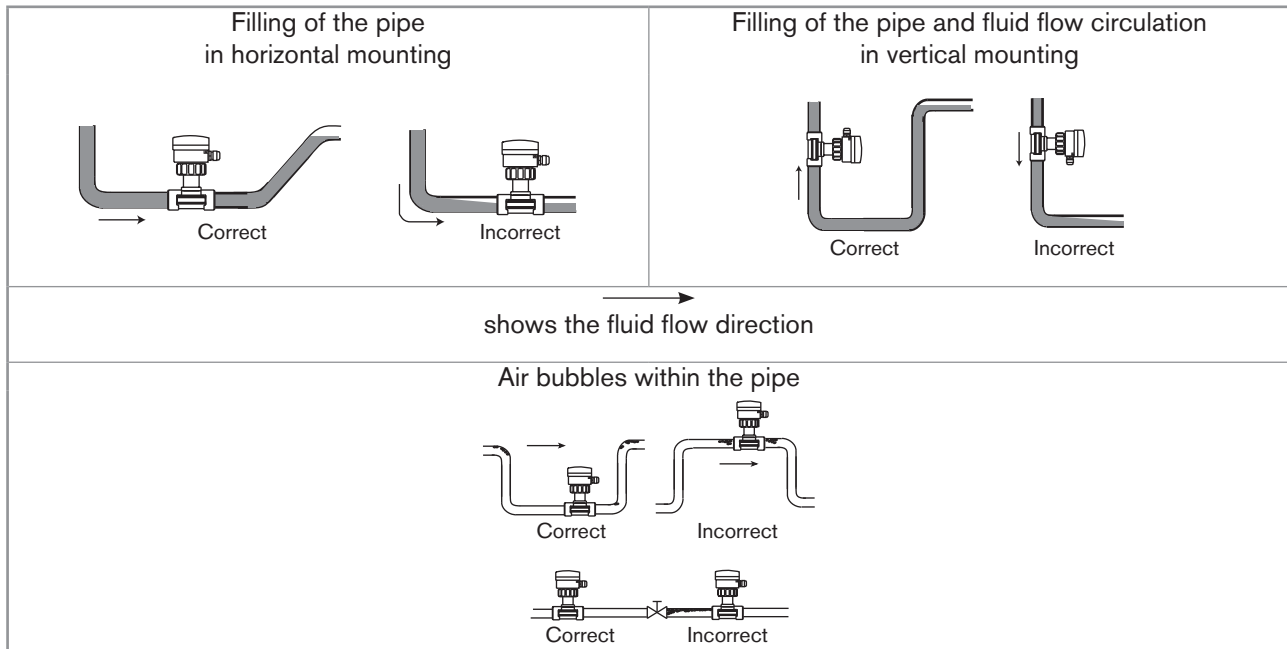

Fig. 11 : Filling of the pipe, flow direction of the fluid, Vertical mounting Air bubbles within the pipe
- the pipes are always filled to the level of the sensor (see Fig. 11),
- when mounted vertically, the flow direction of the fluid is upwards (see Fig. 11),
- air bubbles do not form around the sensor (see Fig. 11).
- the pipes are always filled to the level of the sensor (see Fig. 11, chap. 7.2.1),
- when mounted vertically, the flow direction of the fluid is upwards (see Fig. 11, chap. 7.2.1),
- air bubbles do not form around the sensor-fitting (see Fig. 11, chap. 7.2.1).